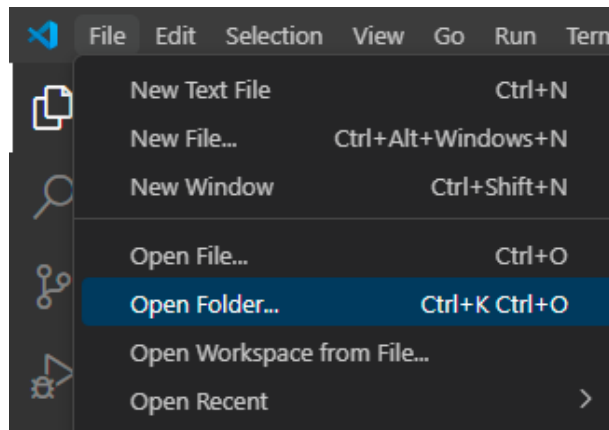

Figure 11: Opening VSCODE environment.
3. Click on "File", "Open Folder..." as is shown in Figure 11: